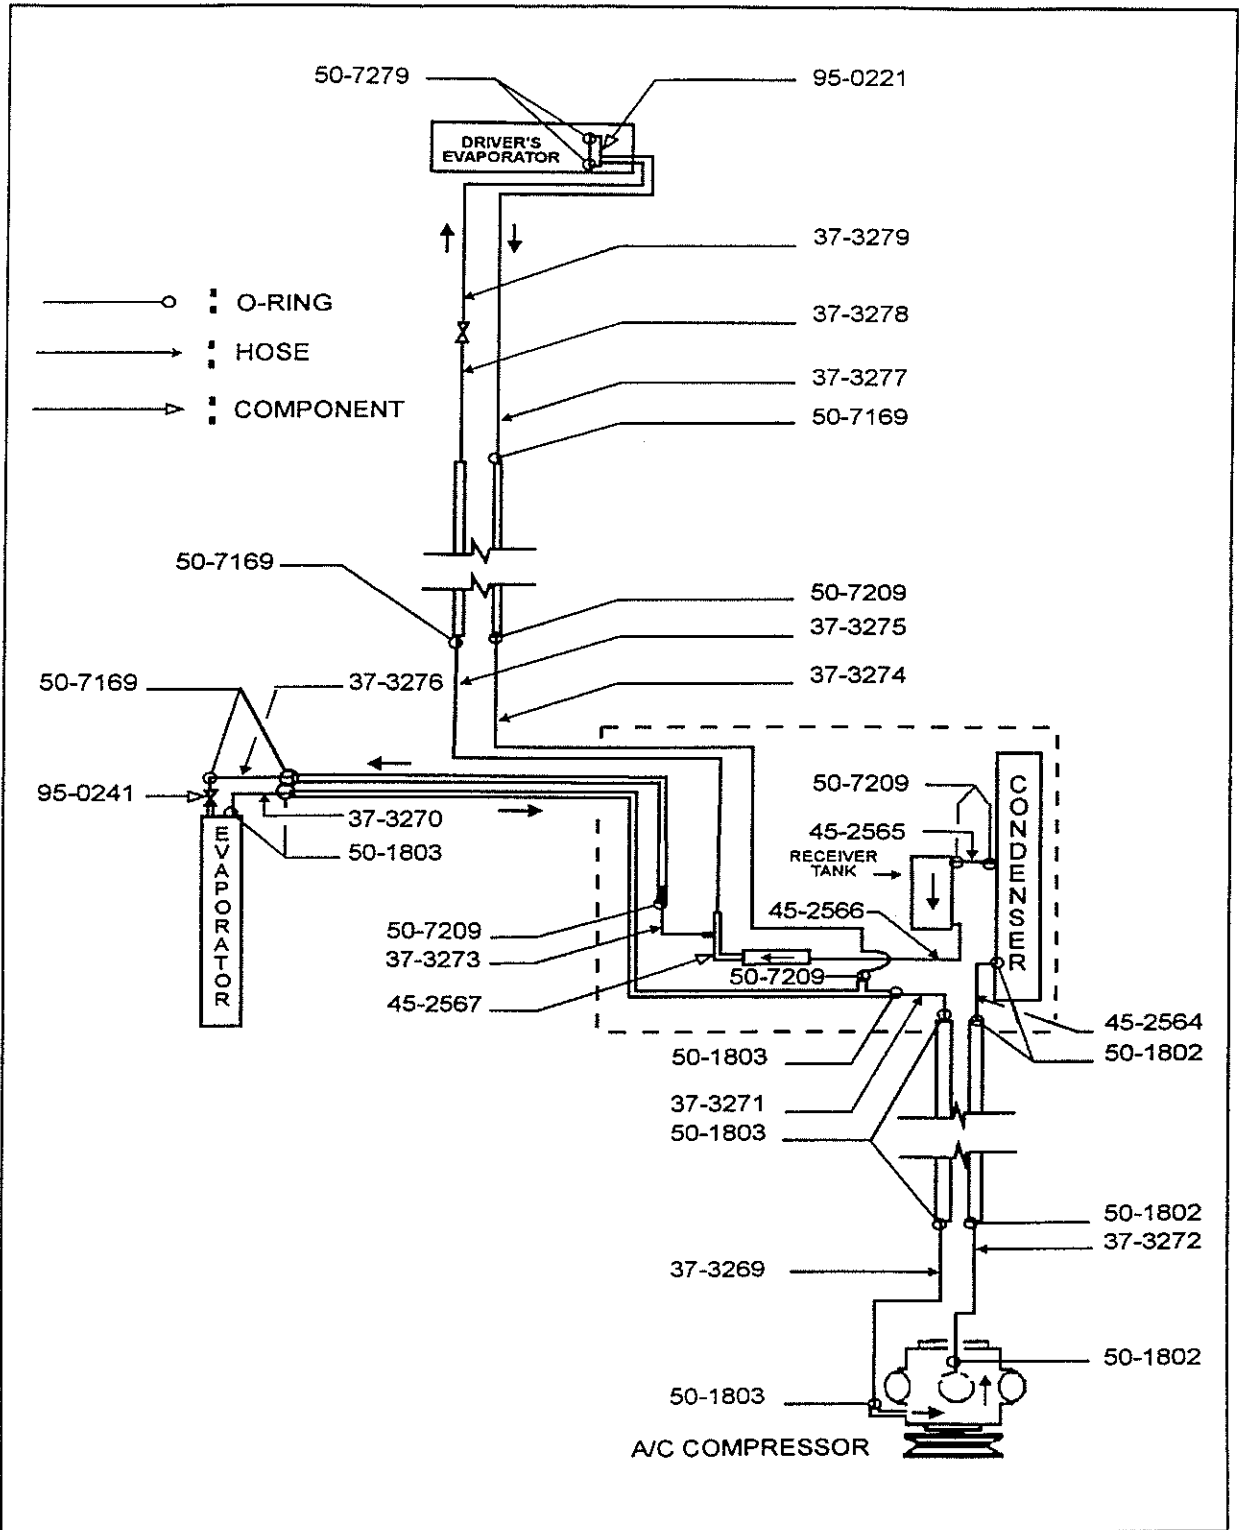

Fig. 4
14. Replace the existing compressor suction and discharge hoses with new hoses from the kit. Replace the O-rings at the hose connections with the new O-rings from the kit. Refer to figure 4 for hose and O-ring identification and location.
9. Replace the expansion valve inlet hose and the evaporator outlet hose. Replace the O-rings with the new O-rings from the kit. Refer to figure 4 for hose and O-ring identification and location.
1. Replace all hoses inside the condenser compartment. Replace the O-rings at the hose connections with the new O-rings from the kit. Refer to figure 4 for hose and O-ring identification and location.
5. Disconnect Evaporator Inlet and Outlet hoses from driver's expansion valve, then remove and discard expansion valve. Install new expansion valve #95-0221. Replace both O-rings. Refer to figure 4 for O-ring identification.